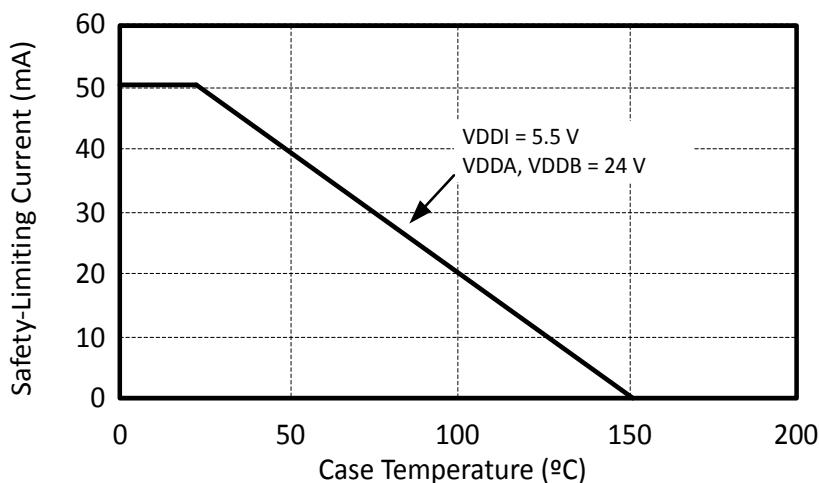

Figure 3.4. WB SOIC, NB SOIC, 14 LD LGA/QFN Thermal Derating Curve, Dependence of Safety Limiting Values with Case Temperature per VDE 0884-10
1. Maximum value allowed in the event of a failure. Refer to the thermal derating curve in Figures [Figure 3.4 WB SOIC, NB SOIC, 14 LD LGA/QFN Thermal Derating Curve, Dependence of Safety Limiting Values with Case Temperature per VDE 0884-10](#) on page 31.